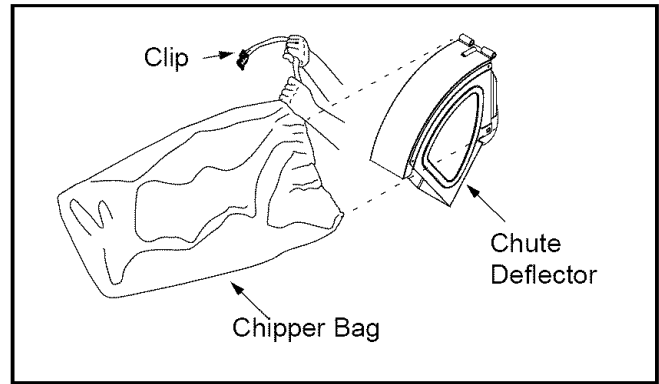

Figure 5
- Clip the drawstring back on itself, tight against the chute deflector to secure into position. See Figure 5.